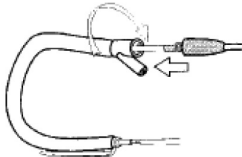

Fig. 4-6B
3. Hold the Tension Guide boot in one hand, the "Y" connect in the other and screw the "Y" connect clockwise until it is securely fastened to the Tension Guide. Do not over tighten. (See Figure 4-6B)